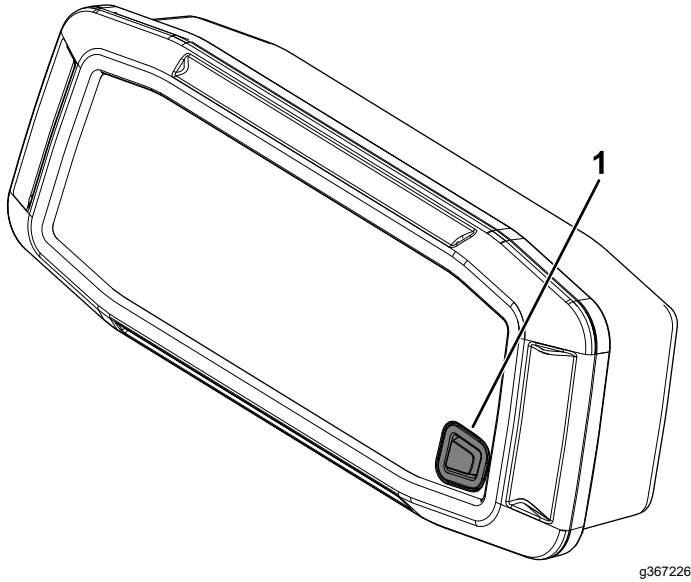

Figure 47
1. Press and hold the button (Figure 47) for at least 10 seconds.